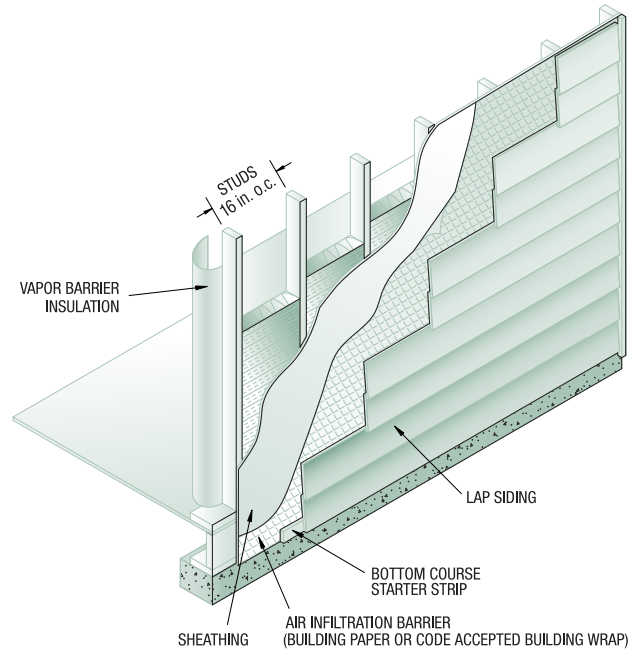

FIG. 6
- Stagger butt joints across wall (*See Fig 6*) making sure joints are on studs for required nailing. Gap joints 3/16 in. and use joint covers.